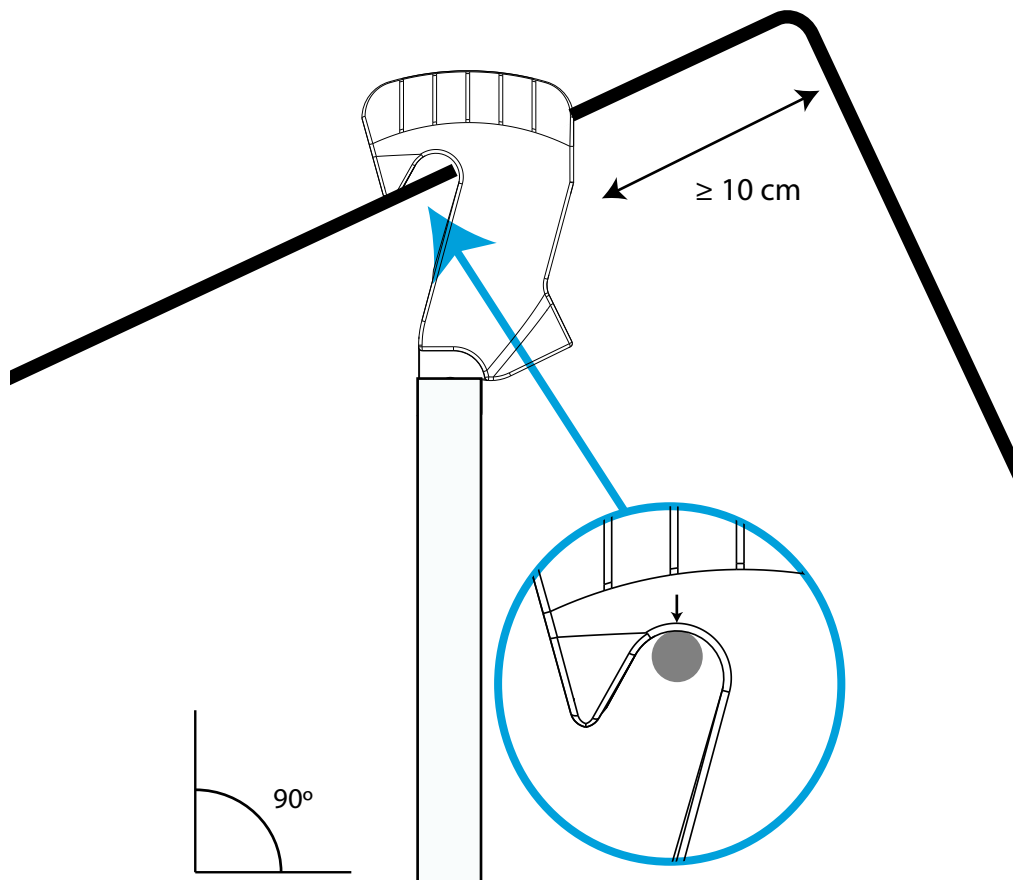

Figure 1: Connection diagram
- ✓ Install the conductor cable by fixing it to the inner wall of the device, as shown in **Figure 1**.
| (1) + variations in range of use.(2) The position of the clamp relative to the conductor cable can vary the accuracy of the measurement. The ideal position is shown in Figure 1 . |                                    |